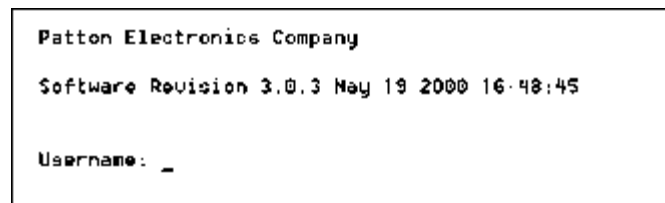

Figure 17. Login window
10. On your HyperTerminal connection window, boot up information will display, eventually followed by a login request window resembling that shown in figure 17.